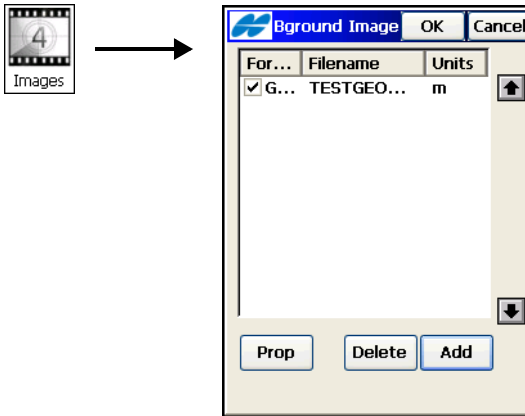

Figure 6-47. Select Image to Open
The **Background Images** screen (Figure 6-47) displays a list of available image files. Initially, the list is empty.
- **OK** – returns to the *Background Images* screen (Figure 6-47 on page 6-42) with the file added to the list. To use a file once it is added, make sure the file is selected in the list.